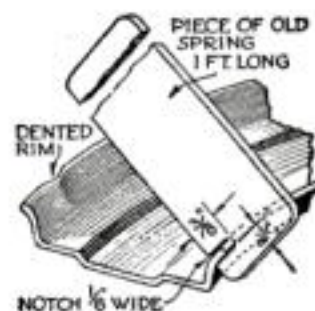

Fig. 7. Dents in your tire rim may be removed with surprising ease with this ingenious tool
**I**T IS possible by the skillful use of a hammer to remove dents in a rim of the type used for straight side tires, but the work is simplified by the use of the tool shown in Fig. 7. A piece of an old spring is first heated to draw the temper, and after a slot has been filed in it it should be retempered. After hardening, draw the temper to a deep straw color.